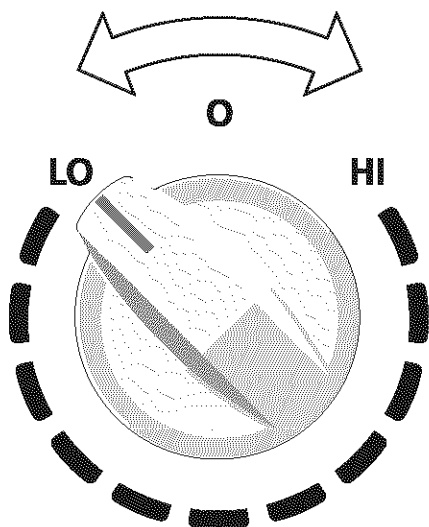

Figure 1
2. Push in and turn the surface control knob in either direction to the desired setting (See Figure 1). Start most cooking operations on a higher setting and then turn to a lower setting to finish cooking. The surface control knobs do not have to be set exactly on a particular mark. Use the marks as a guide and adjust the control knob as needed. Each surface element provides a constant amount of heat at each setting. A glowing red surface heating area extending beyond the bottom edge of the cookware indicates the cookware is **too small** for the surface heating area.